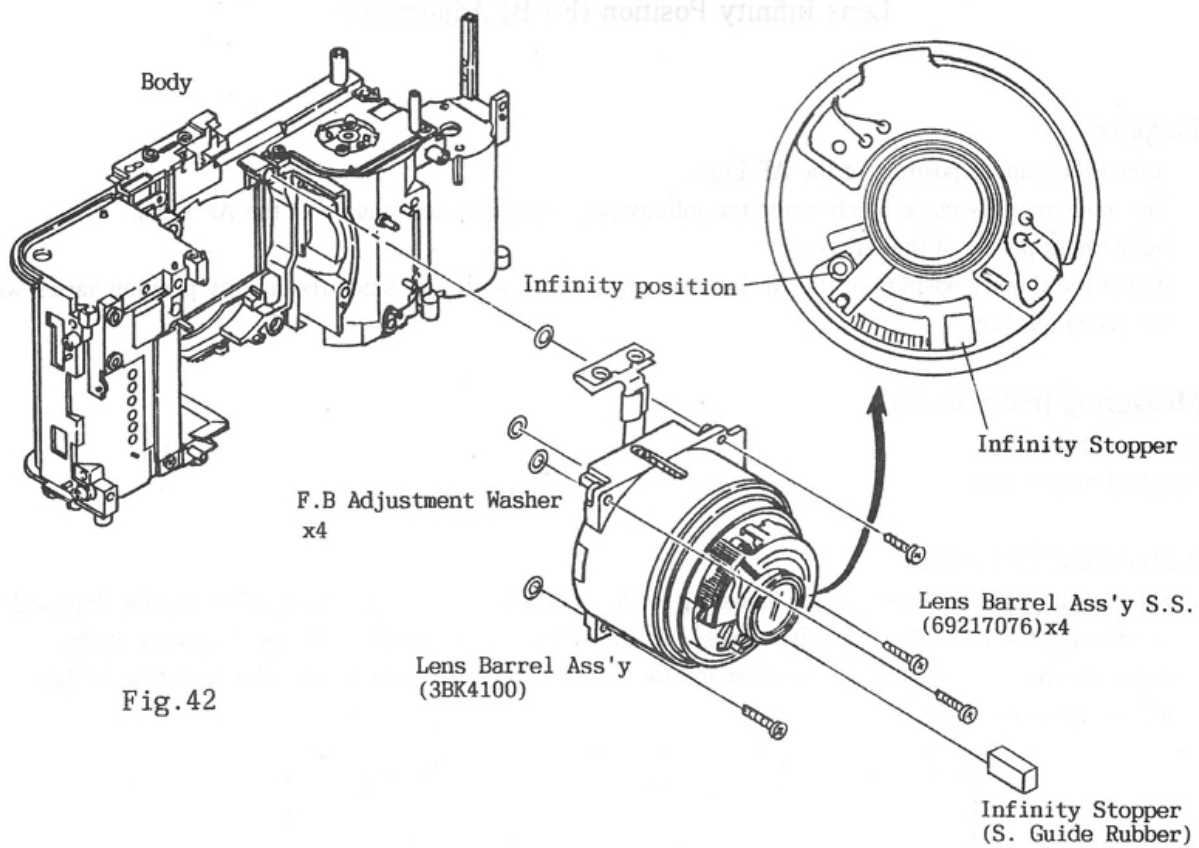
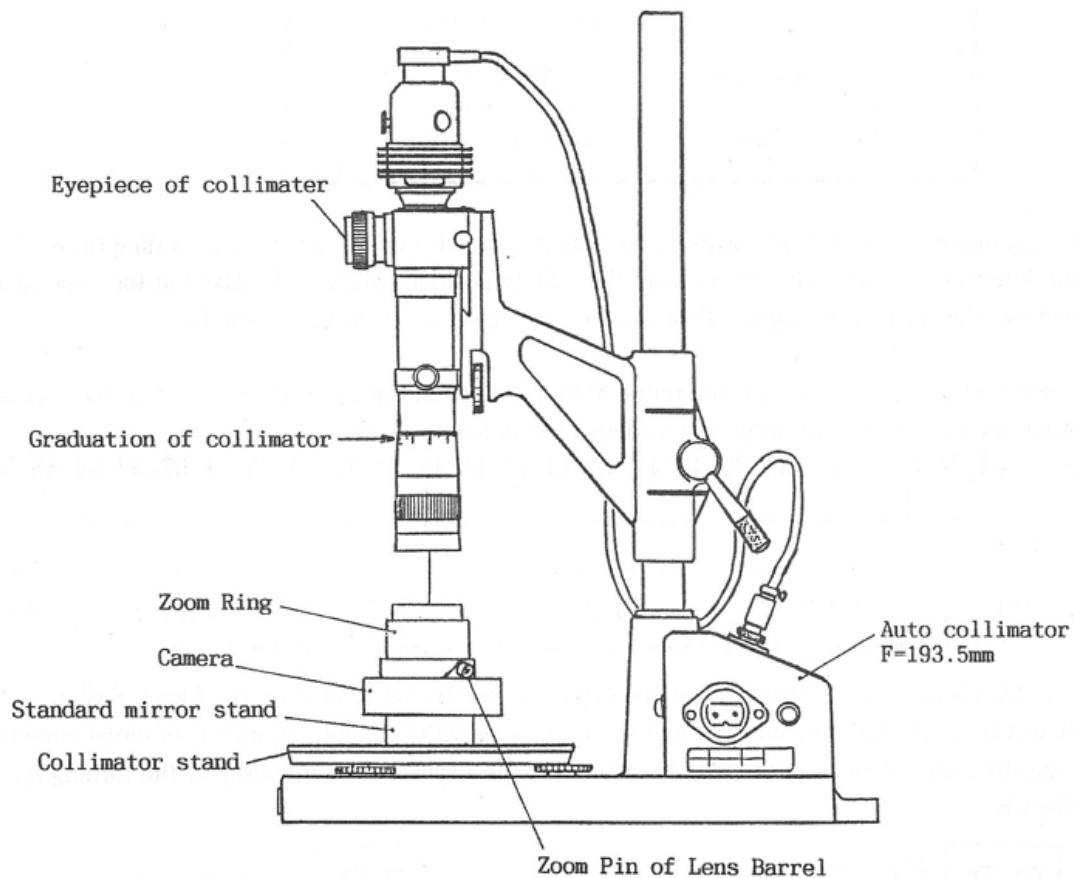

Fig.42
Fig.43
- ① Place the F.B Adjustment Washers (t:0.40) (60141810)  $\times$  4 between the Body and the Lens Barrel Ass'y and tighten the Lens Barrel Setscrews (69217076)  $\times$  4.
- ② Remove gently the Infinity Stopper (S.Guide Rubber) installed in the Shutter. (See Fig. 42)
- ③ Set the camera on the standard mirror stand and set them on the collimator stand.
- ④ Move the Zoom Pin of the Lens Barrel and set the Zoom in the TELE position. (See Fig. 43)